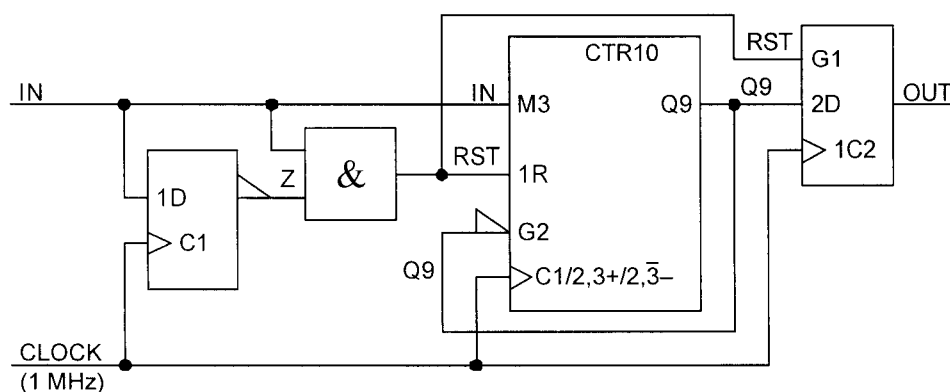
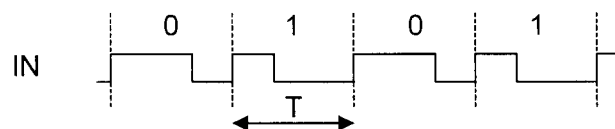

Figure 3.1
Figure 3.2
3. The circuit of *Figure 3.1* decodes the stream of data bits received at its input, IN. The waveform of IN for the bit sequence 0101 is shown in *Figure 3.2*. Each bit is transmitted within a cell of duration T with logical 0 and 1 bits transmitted as pulses of duration $2T/3$ and $T/3$ respectively. The circuit consists of two flipflops, an AND gate and a 10-bit binary counter. Only the most significant counter output, Q9, is used in the circuit and the counter value changes on the CLOCK rising edge according to the following table: